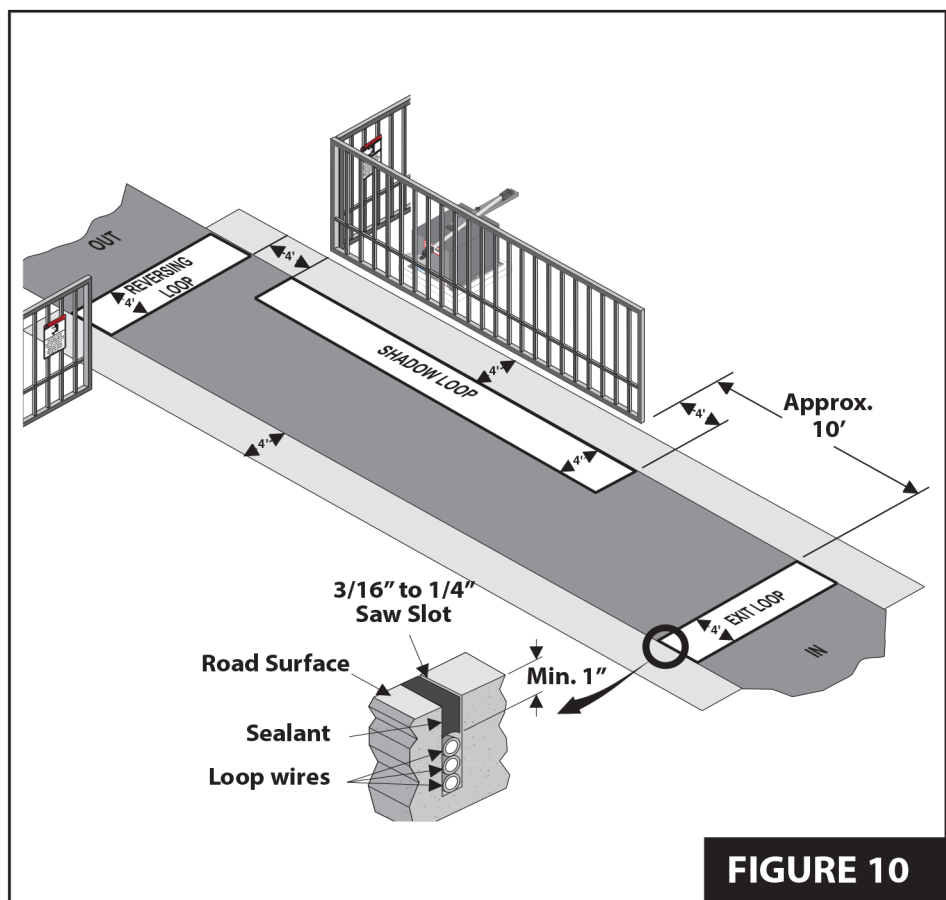

FIGURE 10
Figure 10 depicts the typical loop options for a Swing Gate installation.
- Cut the required groove at the locations laid out according to the diagram below (Figure 10).